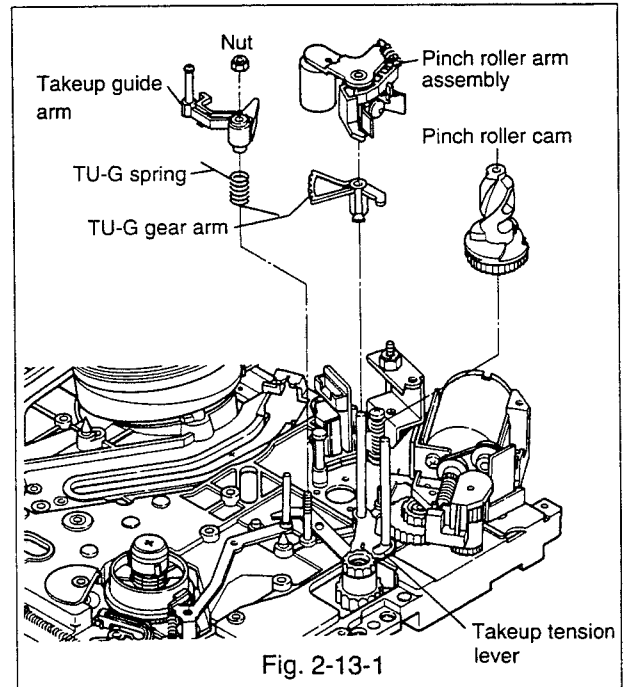

Fig. 2-13-1
2-13-1 Removal(Refer to Fig. 2-13-1.)
2-13-2 Installation(Refer to Fig. 2-13-1-2-13-3.)
- C. Turn the takeup tension lever fully clockwise as shown in Fig. 2-13-1.
- E. Assemble the pinch roller arm assembly to the shaft on the main plate.(Refer to Fig. 2-13-1.)